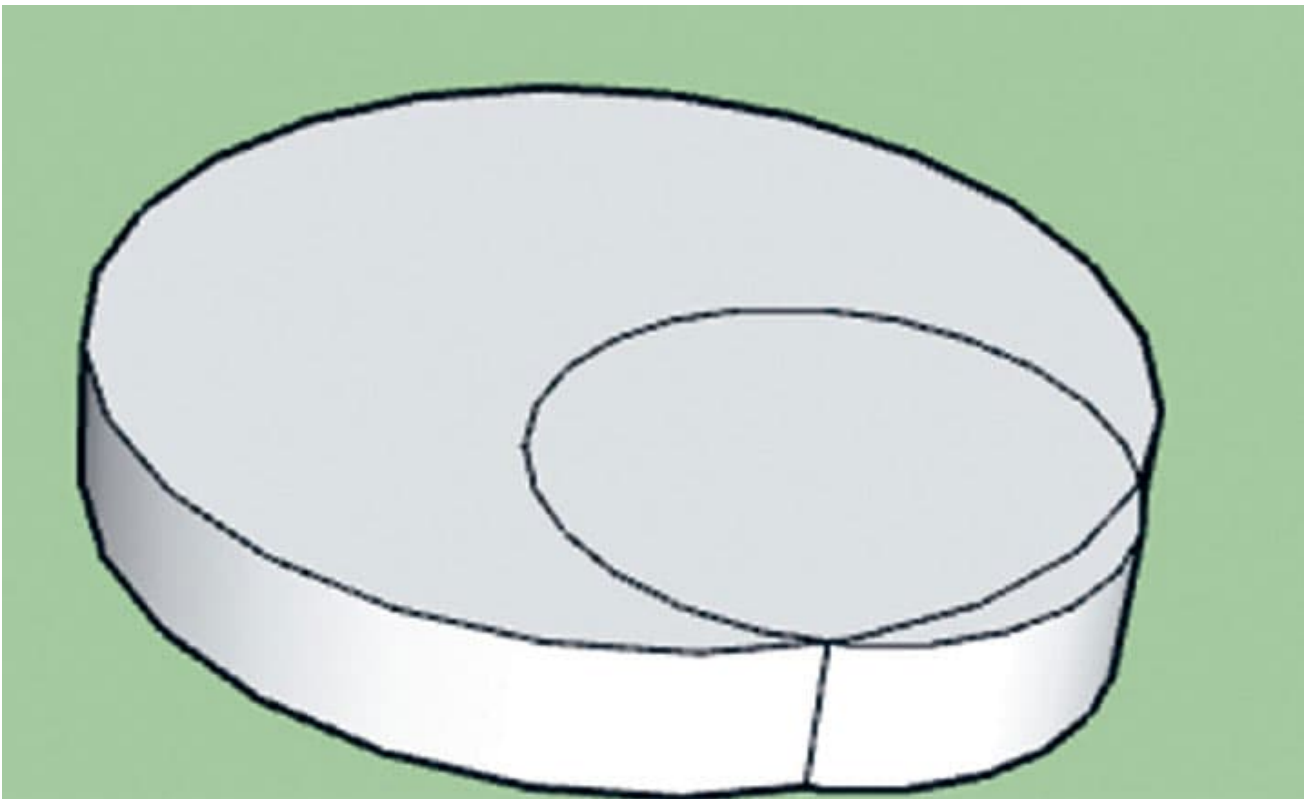

FIG. 3: *Make the cutting circle into a cylinder.*
3. Use the **Push/Pull** tool to extrude the overlapping circle to make another cylinder of the same thickness as the first cylinder (fig. 3).